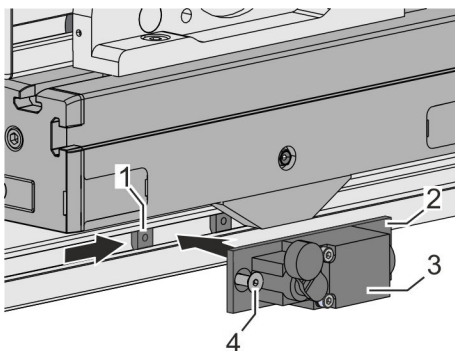

Fig. 38: Assembling the limit switch
- Insert and position the slot stones (Fig. 38/1) in the slot of the guide profile.
- Place the limit switch (Fig. 38/3) along with a holding plate (Fig. 38/2) at the height of the inserted slot stones.
- Tighten 2 screws (Fig. 38/4):